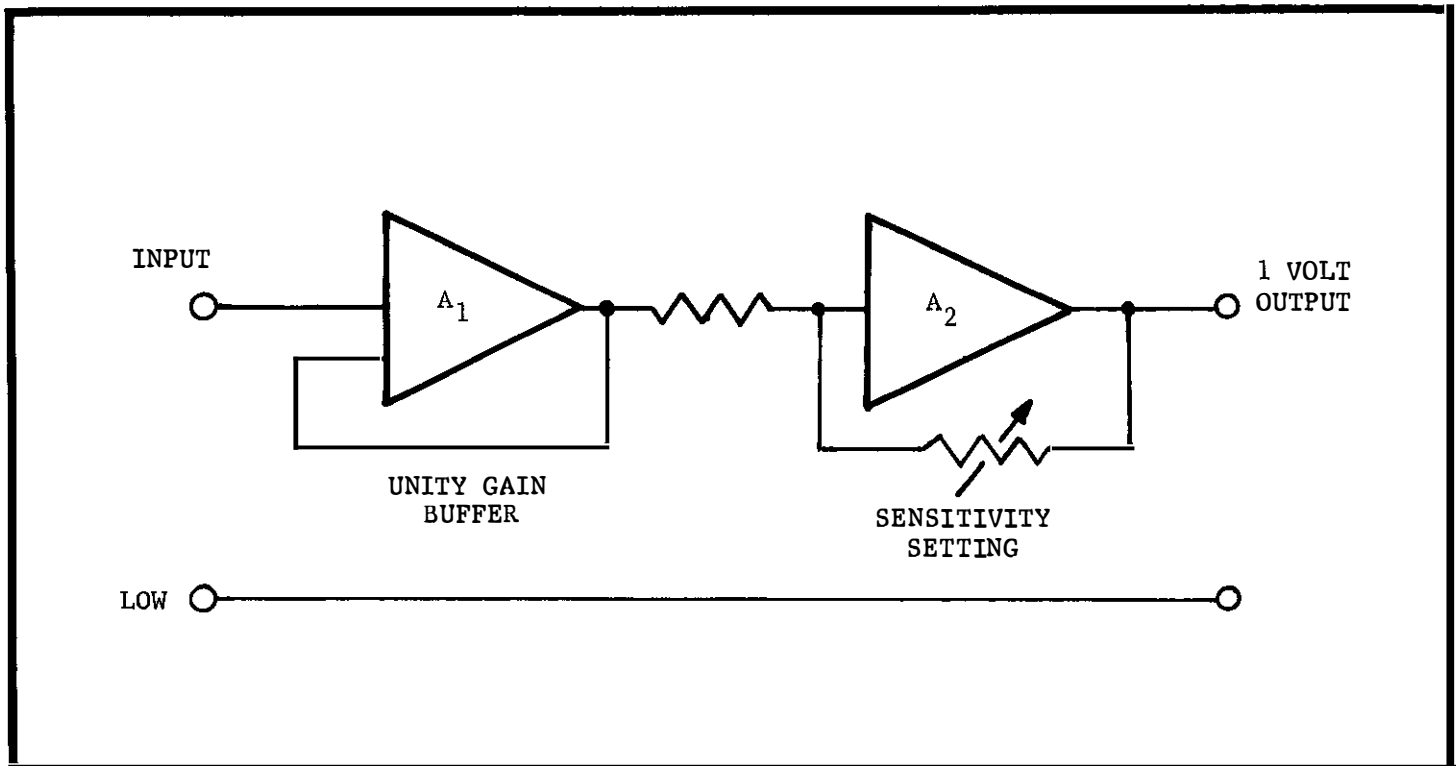

FIGURE 24. Simplified Diagram of Amplifier Section.
a. Input Amplifier. This amplifier A_1 is shown in simplified form in Figure 24. (Refer to schematic 25764E). The input signal applied between HI and LO (J120) is amplified by the input MOS-FET amplifier composed of transistors Q101A and Q101B. Transistors Q102A and Q102B are used for over-voltage protection (base-emitter connected). Integrated circuit QA101 provides high gain (approx. 100,000) for the electrometer amplifier section. Potentiometer R123 is an internal zero adjustment used for calibration purposes. Potentiometer R119 is a front panel ZERO control with adjustment capability of approximately 3 mV. Transistors Q105 and Q106 are complementary output stages which provide a maximum of ± 200 volts at the "X1" terminal (J118). The electrometer amplifier is connected in a unity-gain configuration. Input resistance between HI and LO is greater than 2×10^{14} ohms in "VOLTS" function.
e. **Voltage Sensitivity.** This amplifier A_2 is shown in Figure 24. (Refer to schematic 25776D). The second stage variable-gain amplifier is composed of a FET stage (Q301A, Q301B) and an integrated circuit QA301. Gain is determined by resistors RN301 (A to F) where: